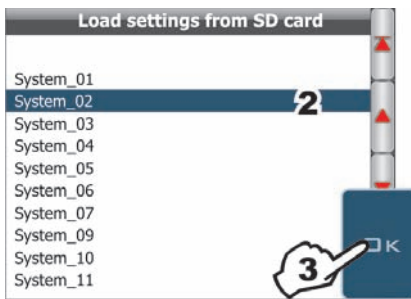

Fig. 180
- 2 Scroll down the configuration list (Fig. 180) and select the file to copy;